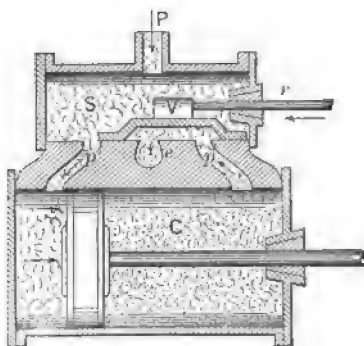

FIG. 93. — Cylinder and steam chest of steam engine.
*Cylinder and valves.* The parts so far described are used to convert water into steam. The rest of the engine converts the energy into the motion of the wheels. The steam is led from the boiler into the steam chest *S* (figure 93). From here two openings *p* and *p'*, called ports, lead to the